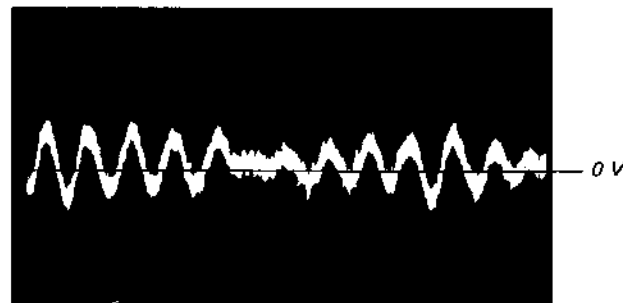

Fig. 7
4. Turn RV502 slightly clockwise (tracking gain drops) and obtain a waveform with a fundamental wave (waveform has large waves) as in Figure 7.